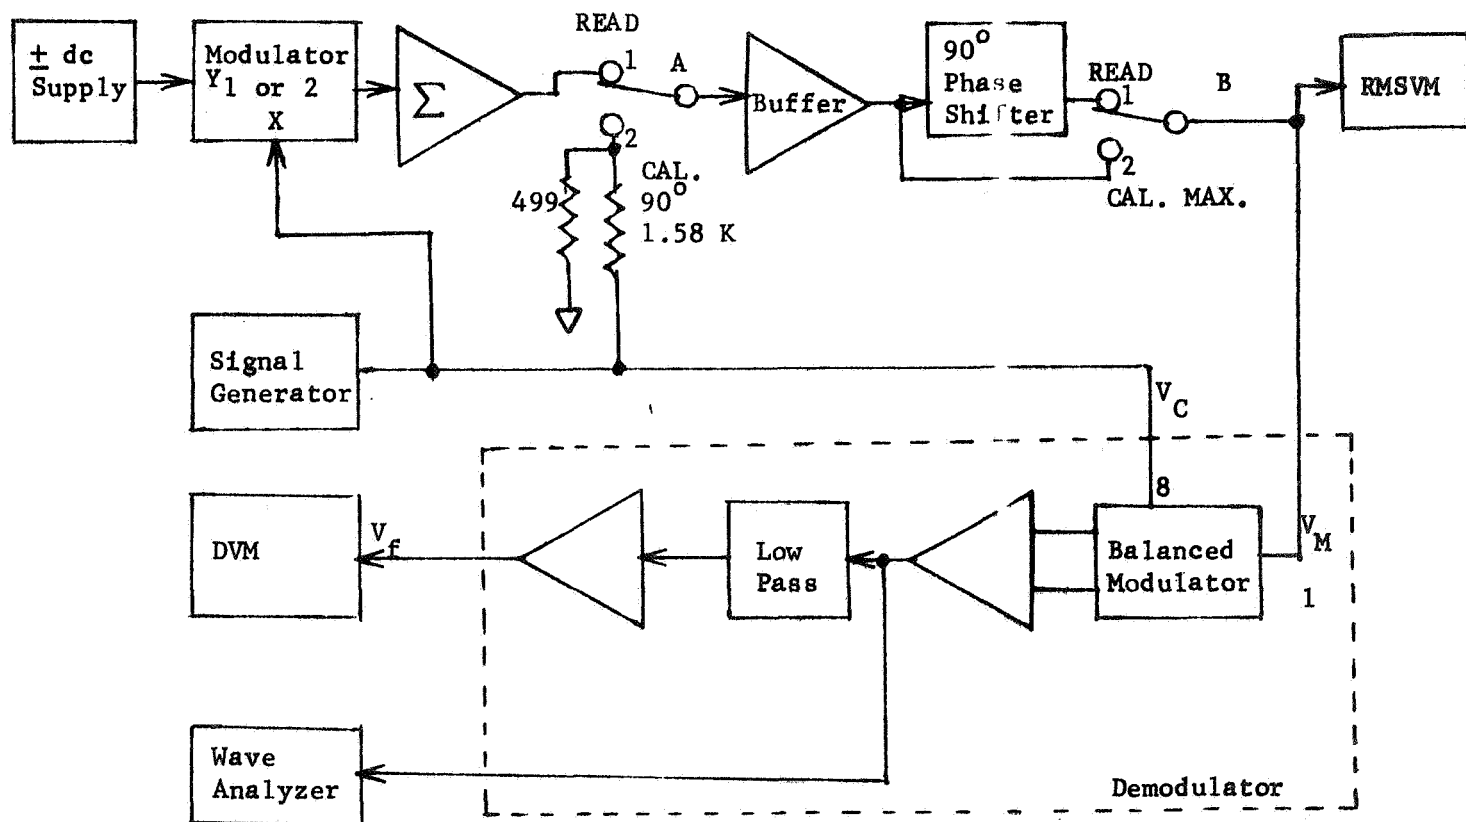

Figure 2.5
- Use test setup as shown in Figure 2.5 with the signal connected to the input of modulator 1.